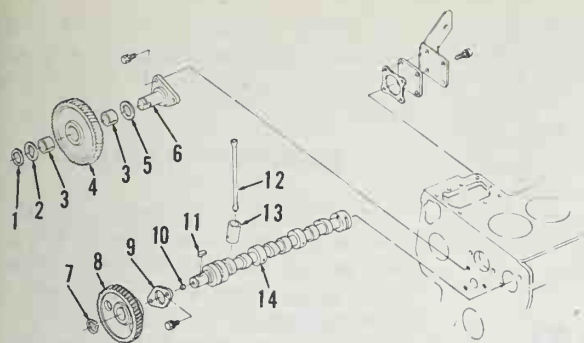
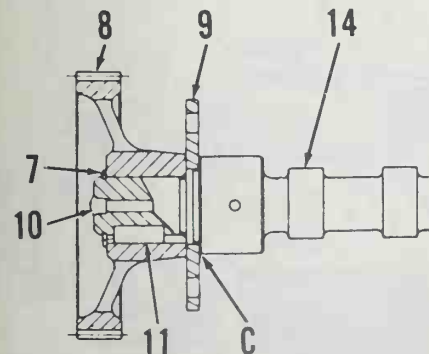

Fig. K2-16—Exploded view of camshaft and idler gear assemblies.
Fig. K2-17—Install gear (8) on camshaft (14) so there is 0.07-0.22 mm clearance (C) between retainer (9) and side of front camshaft journal.
R&R AND OVERHAUL. To remove camshaft, remove cylinder head and timing gear cover as previously outlined, then remove tappets. Unscrew camshaft retainer plate (9—Fig. K2-16) and withdraw camshaft from cylinder block. If necessary, press camshaft gear (8) off camshaft.
When installing camshaft gear on camshaft, first install retainer (9—Fig. K2-16). Heat camshaft gear to approximately 80° C (176° F) and push gear onto camshaft until there is 0.07-0.22 mm clearance between retainer and side of camshaft journal as shown in Fig. K2-17. Refer to TIMING GEARS AND COVER section to properly align camshaft gear timing marks during installation.